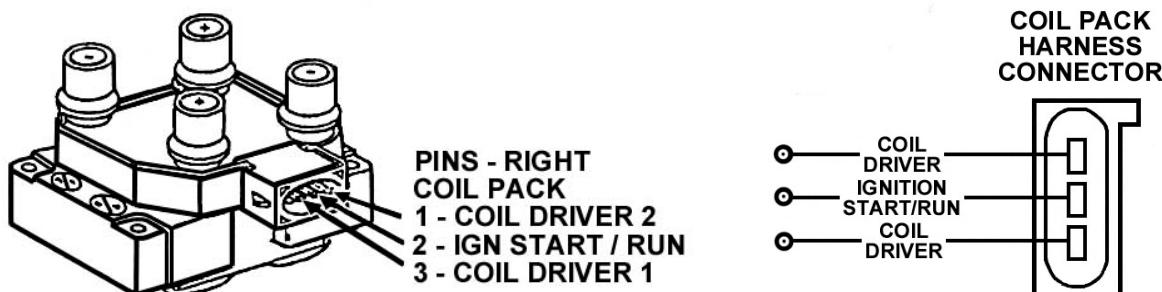

Figure 12—(Coil Pack Harness) Identification of the coil driver wire for the RPM Window switch
4. The white wire of the RPM window switch needs to be connected to the coil driver wire of the ignition coil pack. The ignition coil pack is supplied with a three-wire harness. Select one of the coil driver wires. This will be one of the outer wires of each harness. The positive ignition coil wire will be the middle wire on the coil pack. **Do not use this wire.** Use one of the T-tap terminals included and connect it to a coil driver wire. See Figure 12.